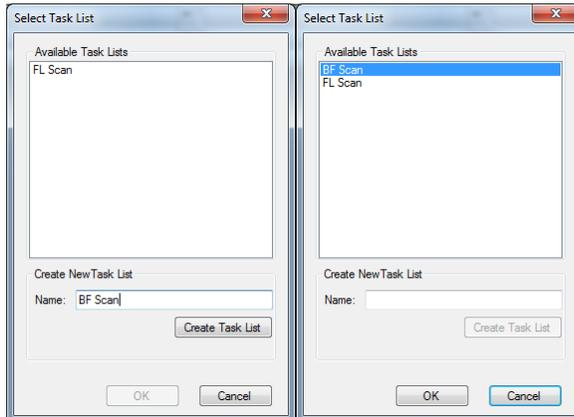

Figure 71. The **Select Task List** window where you can create a new task list (left) or select and then load a previously created task list (right).
5. Click the **Task List Select** button to create and name a task list. Type a Task List name in the **Name** box and click the **Create Task List** button. Click **OK** (see Figure 71).